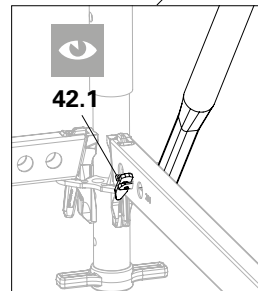
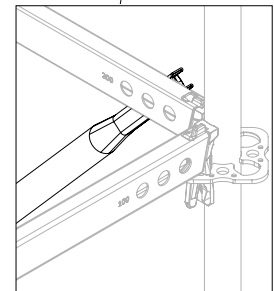

Fig. A2.05b
Fig. A2.05a
3. Insert Ledger Brace UBL (**42**) into the top Horizontal Ledger UH-2 with the mounting finger. (Fig. A2.05a) Insert the tilt finger into the hole of the bottom Horizontal Ledger UH-2, turn finger to a transverse position to secure. (Fig. A2.05b)